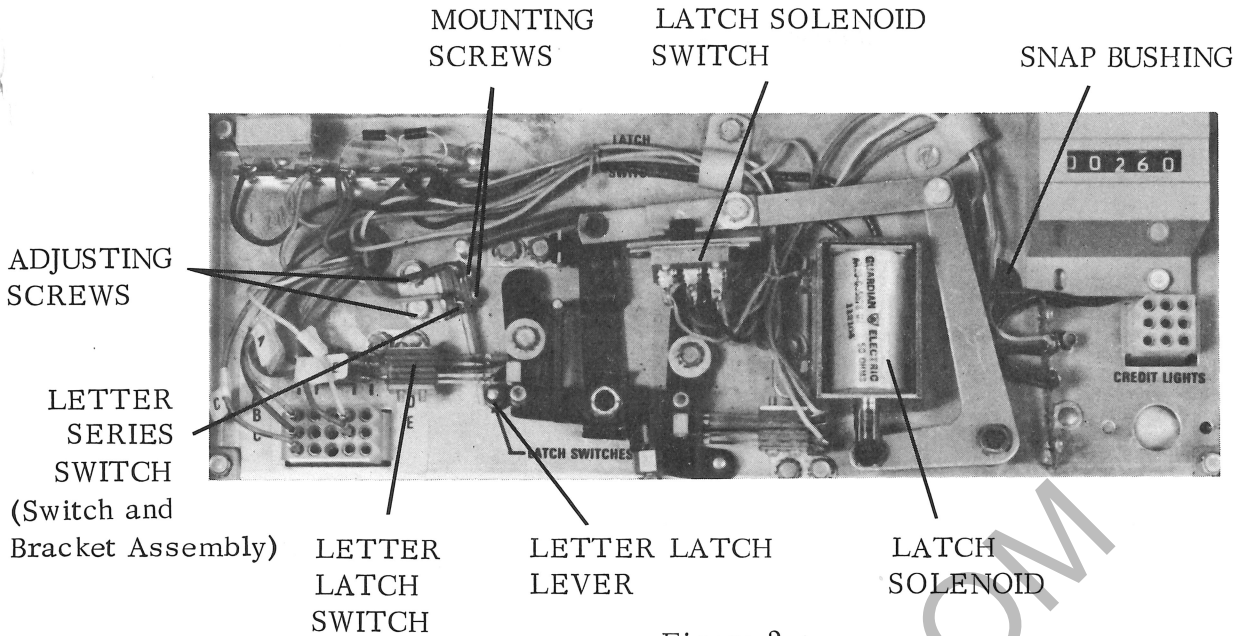

Figure 2
1. Install Switch and Bracket Assembly, Part No. 66007, on mounting plate of Selector Switch Assembly, with two Screws, Part No. 76902-34, as shown in Figure 2. DO NOT tighten Screws at this time.